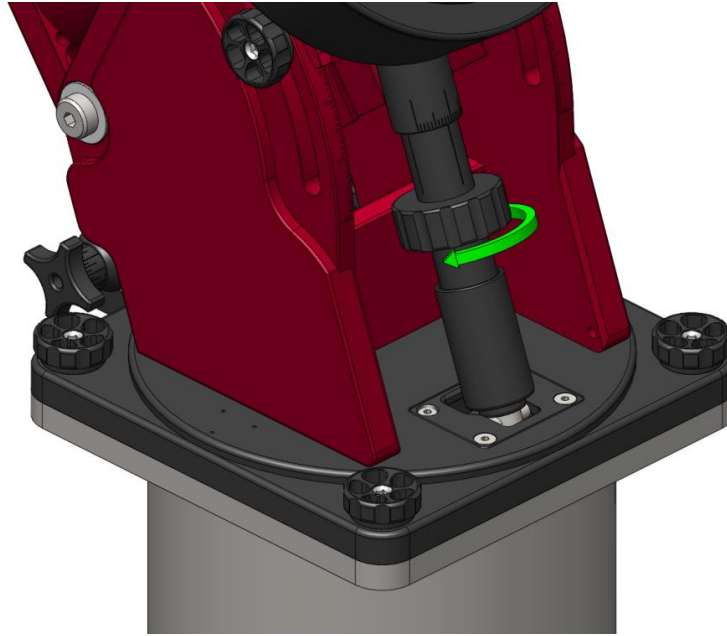

Figure 36: Rotating the Altitude Adjuster in the direction of the arrow lowers the axis.
2. Grasp and rotate the large central knob (near the arrow in Figure 36) to raise or lower the polar axis. The threads are right handed, so, when using your right hand, your thumb will point up or down based on the direction of rotation (which follows the natural bend of your fingers).